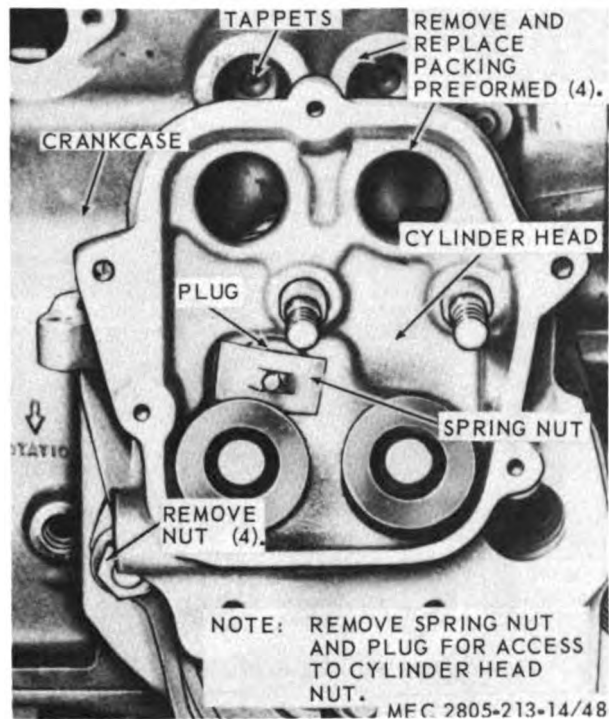

Figure 5-14. Cylinder heads and tappets, removal and installation (Model AO48-KM).
- (1) Remove the spark plugs (para 3-24).
- (2) Remove the left front, left rear, right front, and right rear shrouds (para 3-38).
- (3) Remove the exhaust manifolds (para 3-26).
- (4) Remove the intake manifold and elbows (para 3-20).
- (5) Refer to figure 5-14 and remove the cylinder heads and tappets.
(1) Refer to figure 5-14 and install the cylinder heads and tappets.
(2) Install the intake manifold and elbows (para 3-20).
(3) Install the exhaust manifold (para 3-26).
(4) Install the left front, left rear, right front and right rear shrouds (para 3-38).